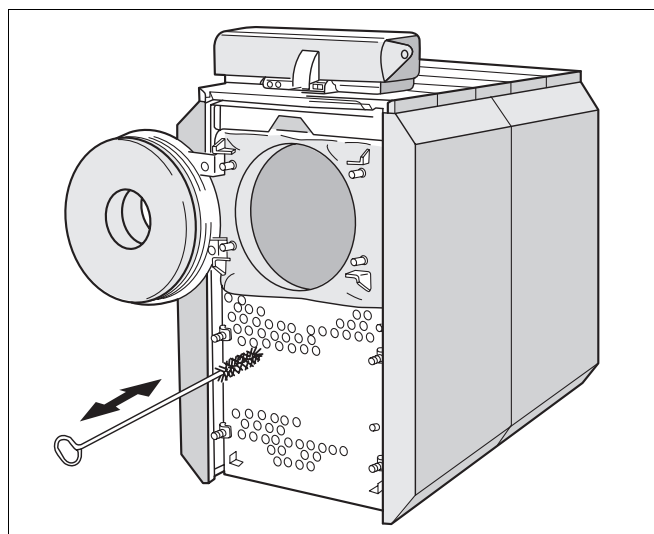

Fig. 27 Brushing out the secondary heat exchange pipes
- Brush out the secondary heat exchange pipes (Fig. 27).